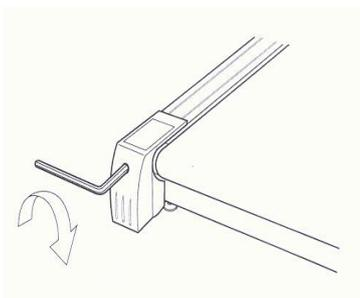

Figure 1
- 1. Running belt has shifted to the left side. (Figure 1 - Adjusting the belt to right side)**